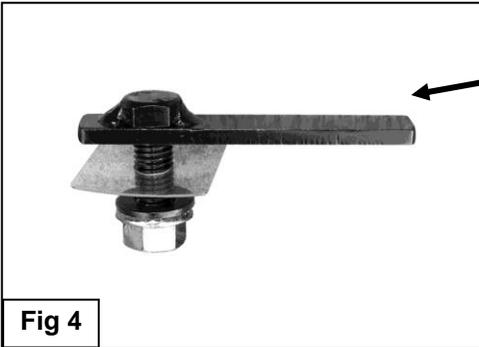
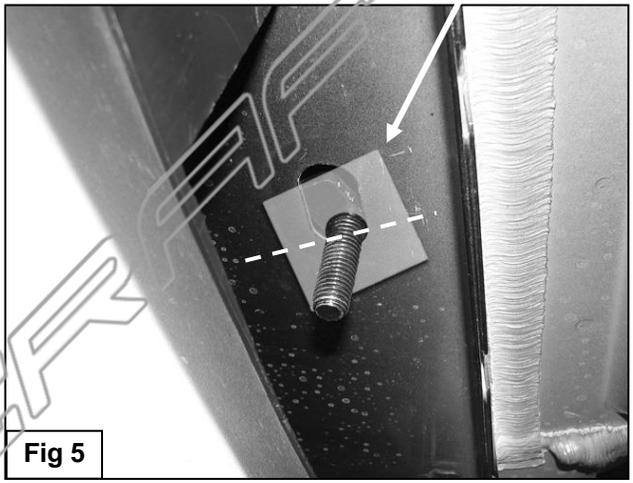

Fig 4
Fig 5
- Starting at the driver side, locate the (3) pairs of factory holes in the pinch weld, **(Figure 1 & 2)**. Move toward the front pair. Remove the rubber plug filling the oval hole in the bottom of the rocker panel in front of the two holes, **(Figure 3)**. Select (1) 12mm Bolt Plate and (1) 12mm Plastic Retainer. Partially thread the Retainer onto the Bolt Plate. Insert the Bolt Plate into the hole and rotate it 90-degrees to go across the slot, **(Figure 4)**. Thread the Retainer all the way down the Bolt Plate and tight against the body panel, **(Figure 5)**. **NOTE:** The Plastic Retainer is designed to prevent the Bolt Plate from pushing up into the body panel and to aid in Bracket installation.